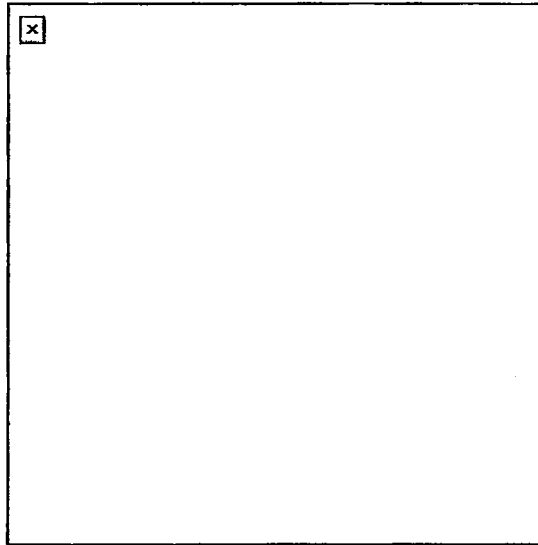

Figure 24. Insertion of the bolt and backplate assembly.
- (1) Hold the vertical cam assembly in place and slide the primary drive lever into the receiver.
- (2) Slide the primary drive lever lock to the rear and engage the pivot post lever through the holes in the receiver and vertical cam.
- (3) Slide the primary drive lever lock forward. (The primary drive lever lock is located on the vertical cam just beneath the top of the receiver).
- j. Insert the bolt and backplate assembly (Figure 24).